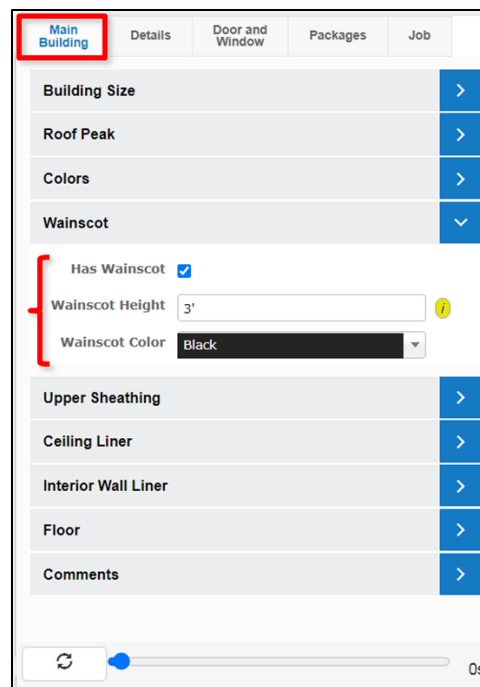

Figure 21: Making changes to Wainscoting using the *Properties Pane*.
4. With your job now open on the *Edit Job* page in *3D View Mode*, click on the *Main Building* tab in the *Properties Pane*, as pictured in *Figure 21*.